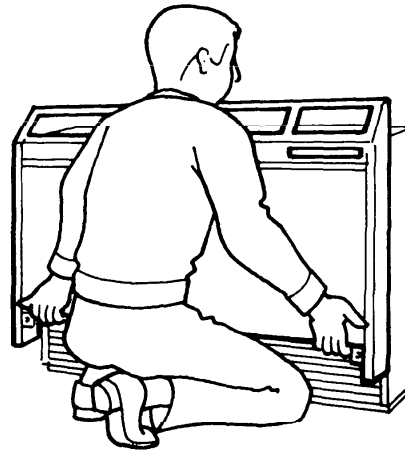

Fig. 2
- 2) Pull the bottom part of the front panel towards you and then lift to remove the front panel. Fig. 2